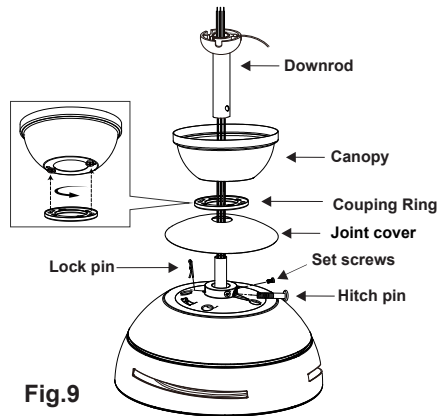

Fig.9
Step 6. Route wires exiting from the top of the fan motor through the canopy and then through the ball/down rod. (Fig.9)
Step 7. Align the holes at the bottom of the down rod with the holes in the collar on top of the motor housing. Carefully insert the hitch pin through the holes in the collar and down rod. Be careful not to jam the pin against the wiring inside the down rod. Insert the locking pin through the hole near the end of the hitch pin until it snaps into its locked position. (Fig.9)